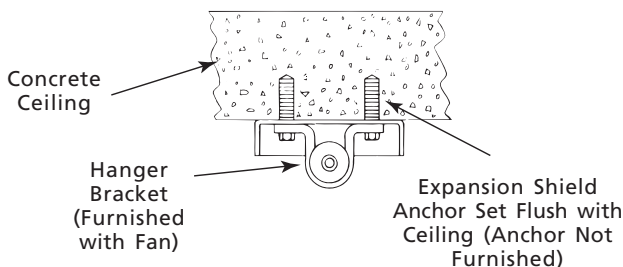

Figure 7
- The anchors must be set in flush with the surface of the concrete. See figure 7.